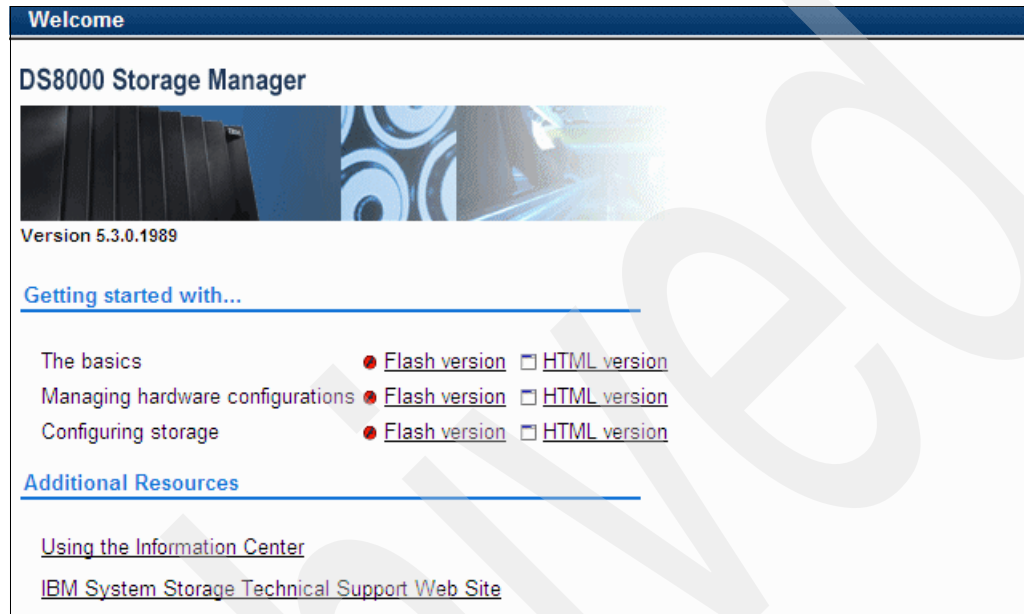

Figure 10-2 DS8000 Storage Manager: Getting started
- The main DS Storage Manager window is the starting point for all of your configuration, management, and monitoring needs for the DS disk and Copy Services tasks (Figure 10-2). The underlying hardware (two System p 570 models), I/O drawers, and I/O adapters are controlled by the storage HMC built into the DS8000 rack or a standalone desktop SMC.